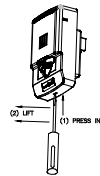

Figure 6: Removal (See step 5 below)
- To remove the appliance, insert a small flat-bladed screwdriver into the bottom opening 1/2" as shown in Figure 6. Then pry off beauty cover with the screw driver and then unscrew device.